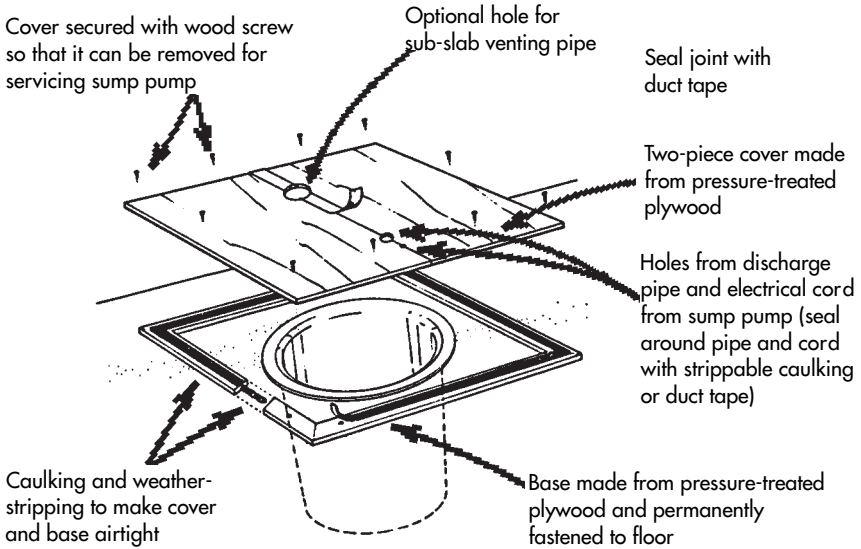

Figure 8: Sealing open sumps
- **Open sumps** – Sumps can be fitted with an airtight cover (see **figure 8**). If the sump also acts as a floor drain, add a special trap to the airtight cover and slightly recess the cover into the sump.